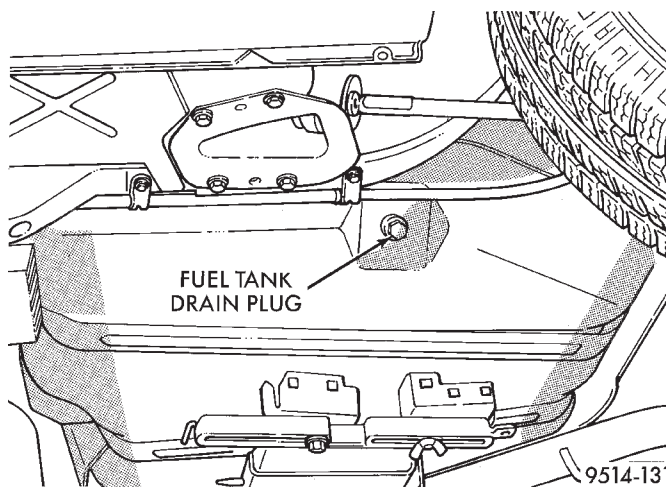

Fig. 8 Fuel Tank Drain Plug
- (4) Remove drain plug and allow fuel to drain (Fig. 8).